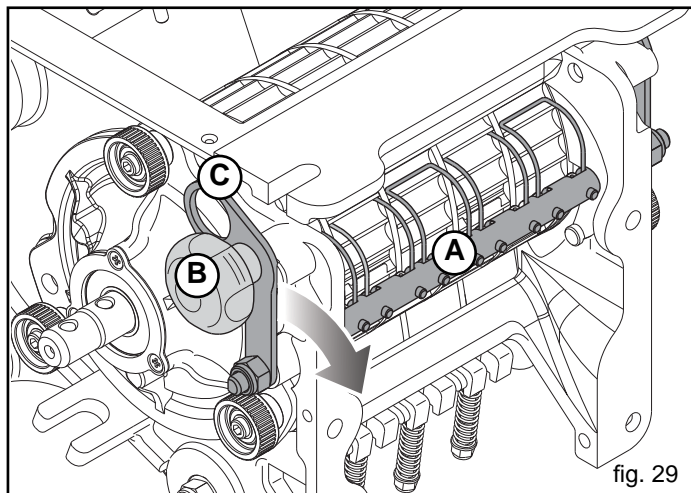

fig. 29
Cleaning spring elements (A, Fig. 29) are used during the distribution of oily seeds by means of the yellow seeding roller, mod. F25-125.
... loosen the knob (B, Fig. 29), remove the levers (C) from their housing and move them in the direction shown by the arrow.
- 1) Loosen and remove the knob (B, Fig. 29). Then, move the lever (C) in the direction shown by the arrow.